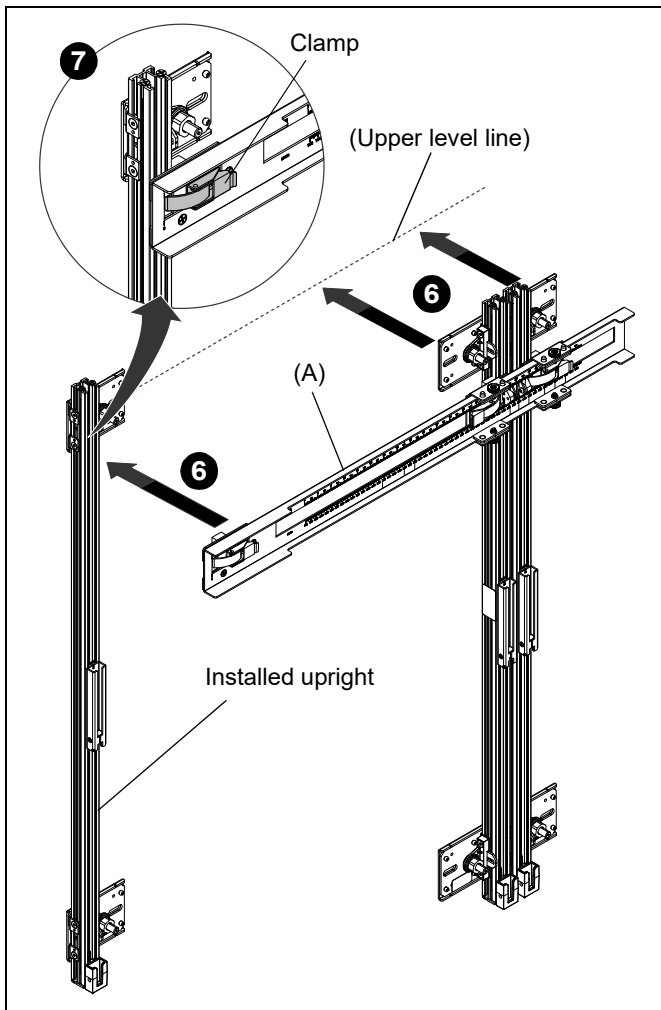

Figure 5
6. Place the spacer tool (A) with the attached right and left uprights against the wall, positioning the clamp on the open end of the spacer tool over the left upright installed to the wall. (See Figure 5)
7. Slide the spacer tool up towards the top of the upright until it stops against the mounting flange and clamp the spacer tool to the upright. (See Figure 5)